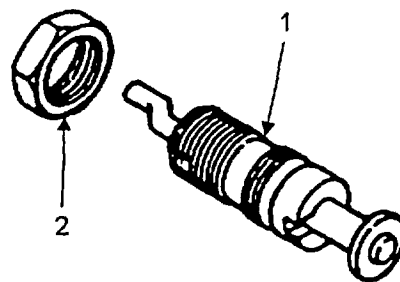
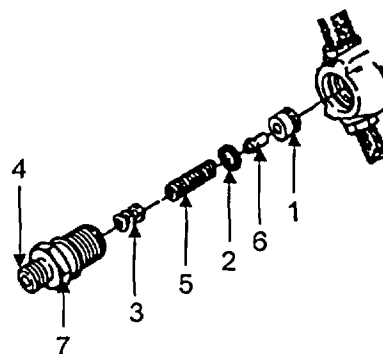

FIGURE 5-11. EXTRA FUEL DEVICE
FIGURE 5-12. DELIVERY VALVE REASSEMBLY
e. Loosen extra fuel button jam nut (Figure 5-11, Item 2) with 30 mm socket wrench, 66833500.
f. Using special wrench 60600000, slightly rotate extra fuel device (1) until fuel starts dripping.
g. Tighten extra fuel button jam nut (2)
j. Remove delivery valve body (Figure 5-12, Item 1) and copper washer (2) from spill device.
k. Install filling piece with three shims (3) in delivery valve holder (4).
l. Insert spring (5) in delivery valve holder (4).
m. Insert copper washer (2) in delivery valve holder (4)
n. Insert delivery valve (6) in valve body (1)
o. Insert delivery valve (6), and valve body (1) into delivery valve holder (4)